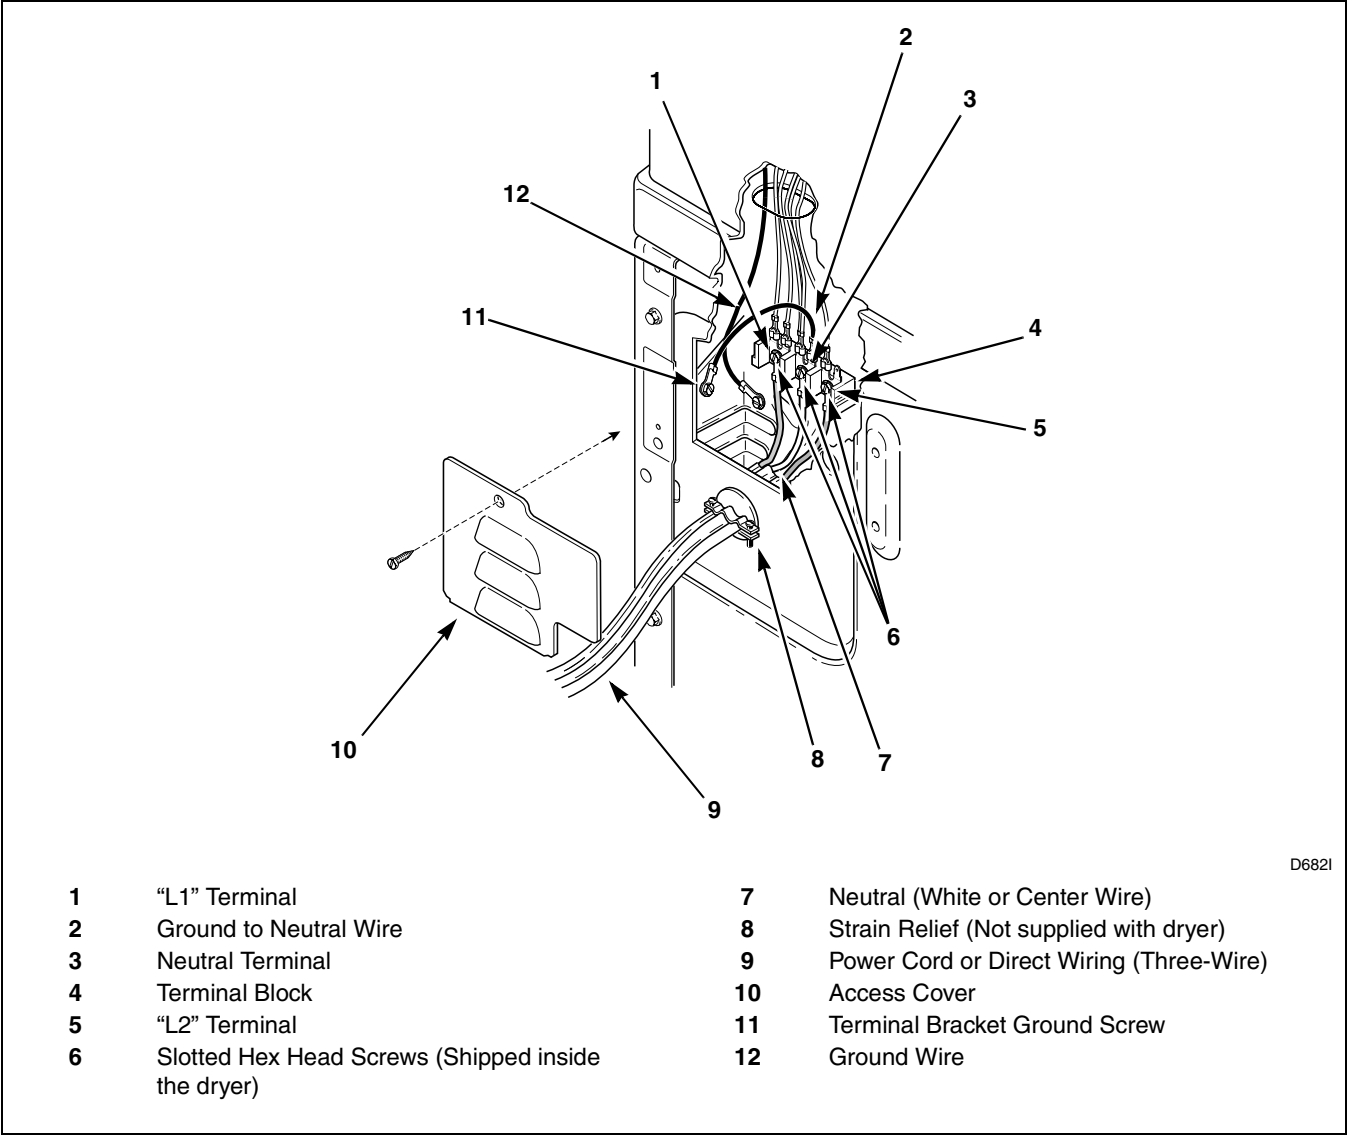

Figure 25
2. Insert ends of direct wire through power supply hole (containing proper strain relief) in rear of dryer cabinet. Refer to *Figure 25*. Connect the power cord, or direct wiring, to the appropriate terminal block terminals using the **three wire-binding screws from the accessories bag in the envelope shipped inside the dryer cylinder**. If the dryer had previously been connected with a four-wire power cord, remove the four-wire power cord by reversing procedures under *Four-Wire Power Cord* instructions.